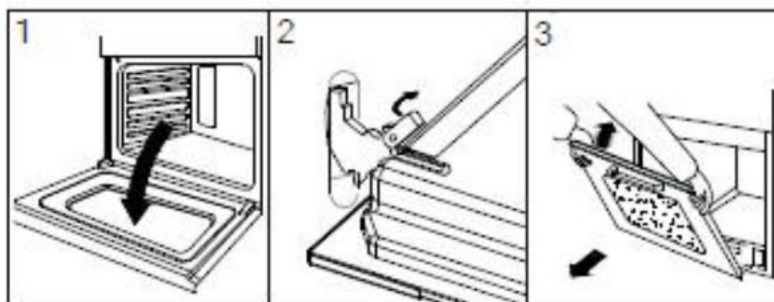

Figure 15
- Pull the door towards you, pulling it out of its seat. Door will gently come away from the oven. (See Figure 15)